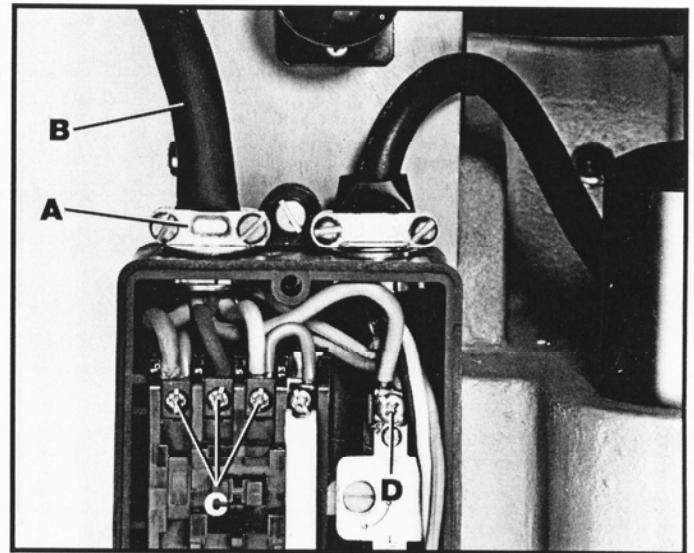

Fig. 18
3. **WARNING: MAKE CERTAIN POWER LINE (B) FIG. 18, IS DISCONNECTED FROM THE POWER SOURCE** and insert power line (B) through cable clamp (A) on top of switch box. Connect the three power lines to terminals (C) and the green ground wire to terminal (D). **IMPORTANT: IF AFTER THE MACHINE IS IN OPERATION THE CUTTERHEAD REVOLVES IN THE WRONG ROTATION, SIMPLY INTERCHANGE ANY TWO OF THE THREE POWER LINES THAT ARE CONNECTED TO TERMINALS (C) FIG. 18.**